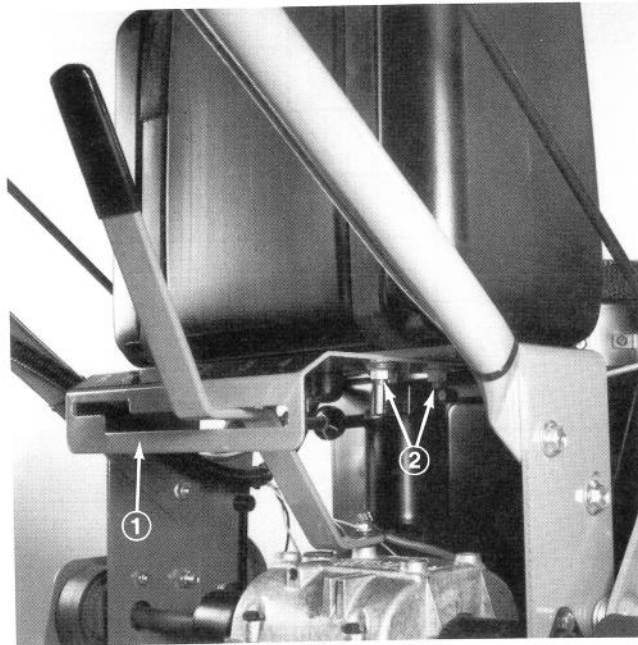

Figure 25
1. Loosen four locknuts securing control panel to rear frame (Fig. 25).